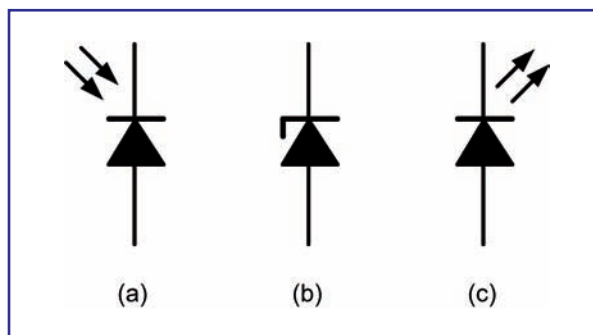

Fig.3.14. See question 3.7
- 3.7. Identify each of the diode symbols shown in Fig.3.14?